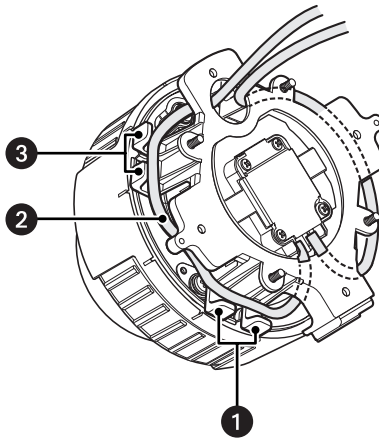

Figure 15. Routing the Cables
10. Accommodate the connected cables inside the cable guide of the mounting base (refer to Figure 15).